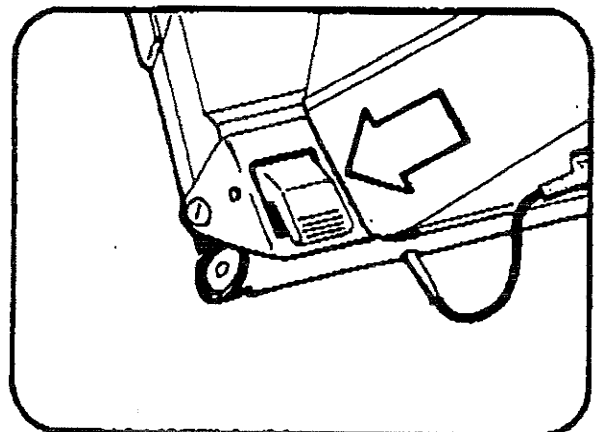

Fig. 4A
4. Depress the RED foot pedal and lower the handle to the operating position. When the handle is lowered, the brush motor will start. Use normal vacuuming procedure. See Fig. 4A